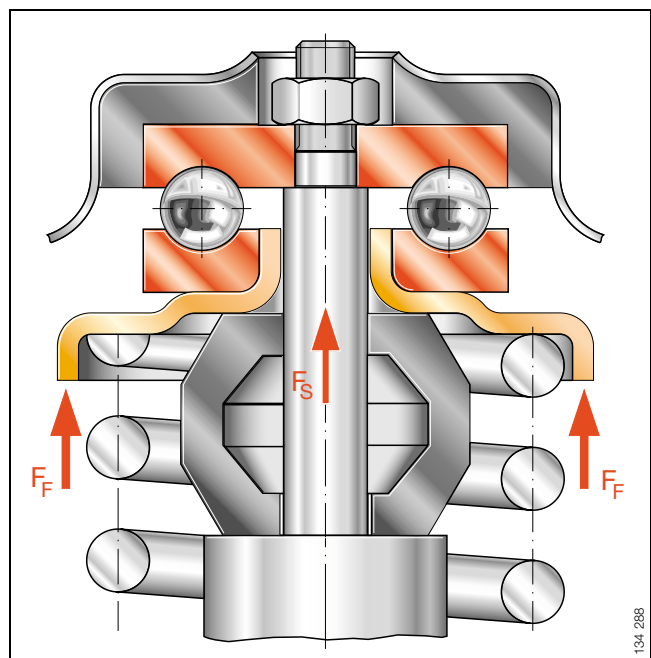

Figure 2 · Bearing receives spring forces only
- Only the spring forces  $F_F$  pass through the bearing; shock absorber forces are supported by the body (Figure 2)